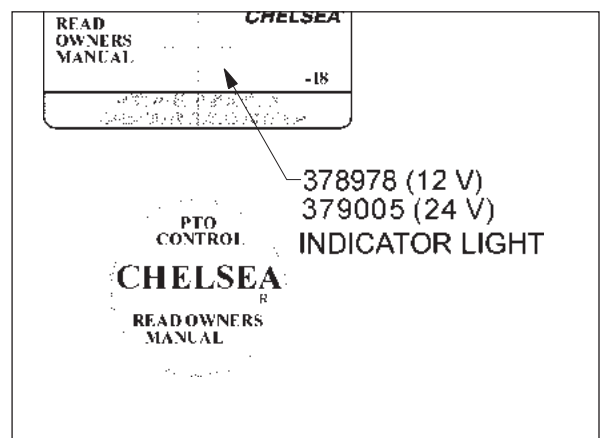

Fig. 18
5. Install the control plate (68-P-18) stick on decal and indicator light on the dash using the hardware supplied in the 328751-1X installation kit (**Fig. 18**).